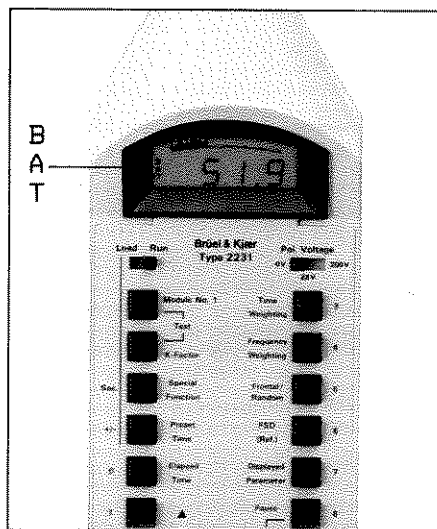

Fig. 2.1. Battery Low display
**Battery Low:** See Fig.2.1. Flashing “BAT” appears in the display. Approximately 30 min. operation remaining.